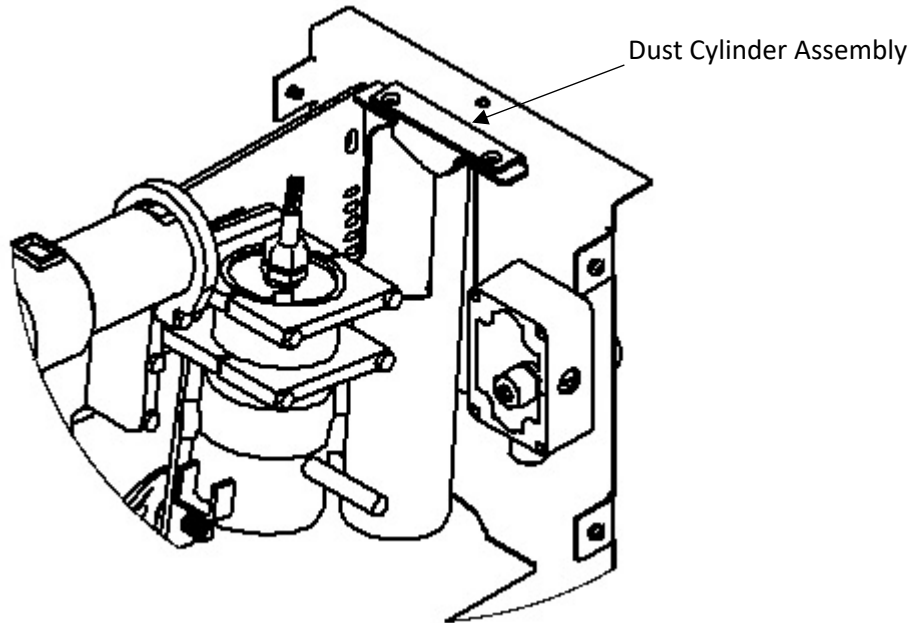

Figure 28: Dust Cylinder Accessory Installed
6. Place the dust cylinder assembly on the front inside face of the machine. See Figure 28.